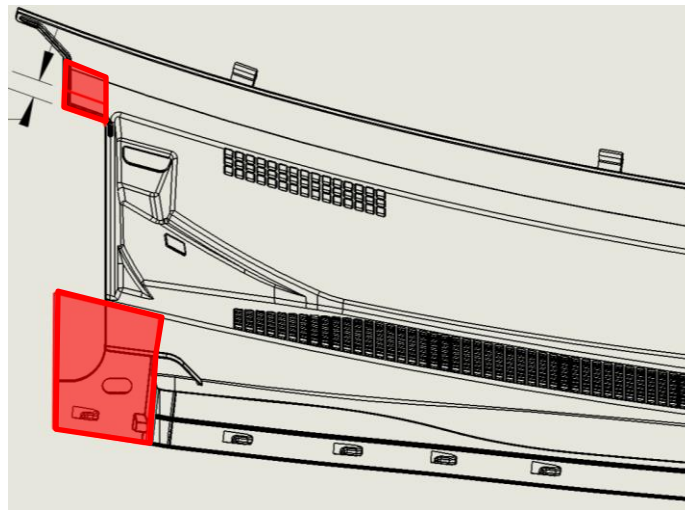

Fig 4
- c. Trim off the areas indicated with the outlines in Fig 4 on the passenger side of the cowl.